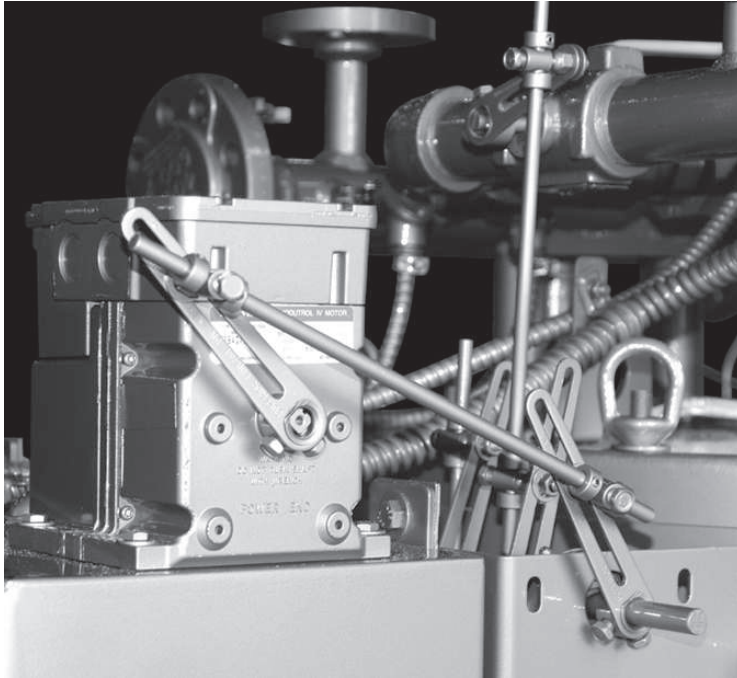

FIGURE 21 - LINKAGE COMPONENTS
6. In systems utilizing linkage, check all linkage components for tightness. See Figure 21.